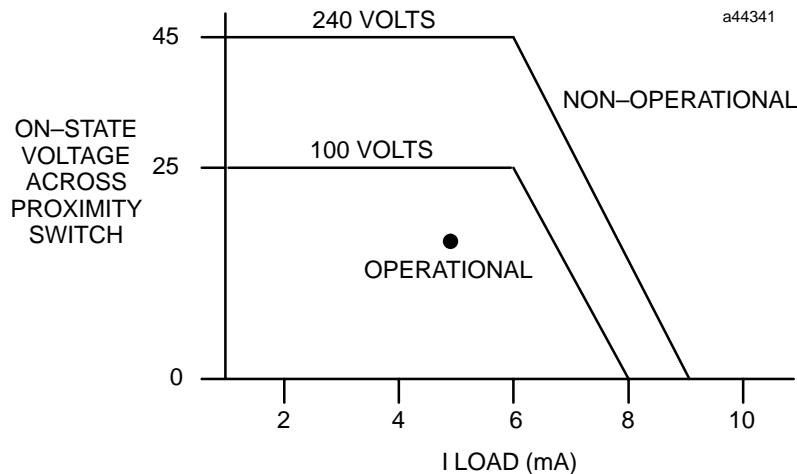

Figure 2. On-State Characteristics Compatibility
2. To remove the terminal board, grasp the top of the terminal board and swing it outward as shown in Figure 2.
4. The terminal board is designed to accept a maximum of (40) AWG #14 (2.10 mm²) wires. If AWG #14 (2.10 mm²) wires are to be used, then wire markers should be placed at least 8 inches (203 mm) from termination end to provide sufficient space for the hinged door to close.